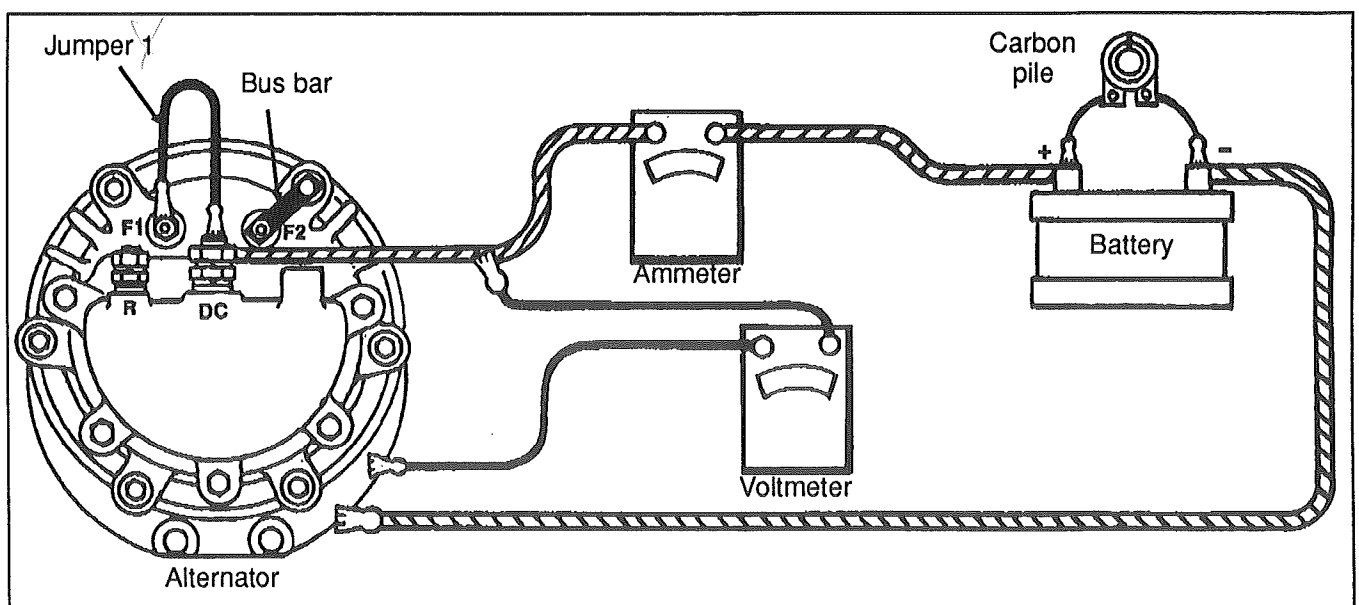

FIG. 21 - Connections for checking alternator output
1. Start the engine and momentarily connect a jumper from the "F1" field terminal to "DC (+)" terminal. For connections, refer to figure 21.